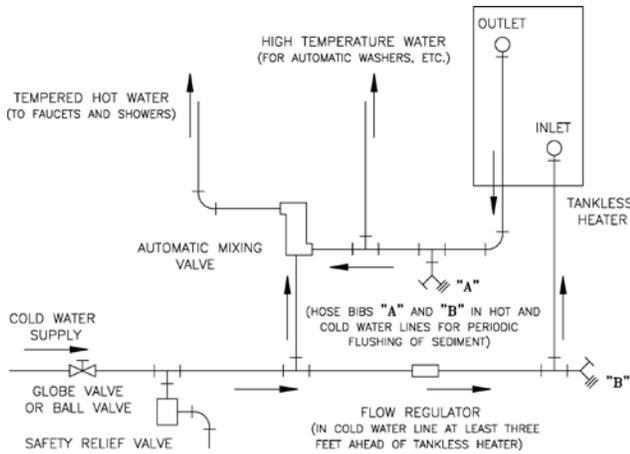

Figure 15: Schematic Tankless Heater Piping
- J. CONNECT TANKLESS HEATER PIPING AS SHOWN IN Figure 15. See Table 4 for Tankless Heater Ratings.